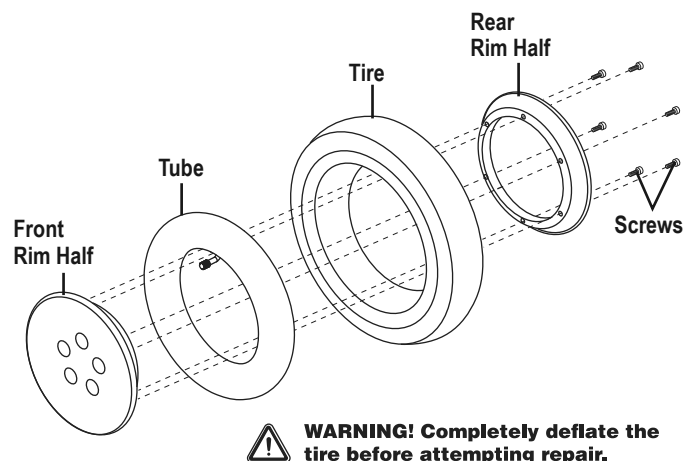

Figure 16. Drive Wheel Disassembled
6. Remove the screws and separate the front and rear rim. **See figure 16.**
10. Reinstall the hubcap, if equipped, then reinstall the three (3) or five (5) lug nuts onto the wheel hub and tighten.